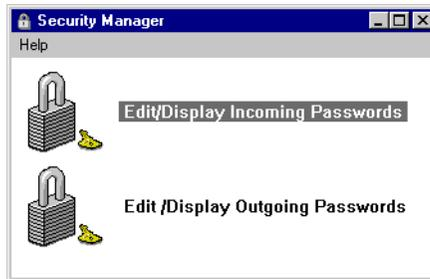

Figure 120. Netfinity Manager Security Manager
1. On each remote server run Netfinity Manager and open Security Manager. (You can also do this remotely through Remote System Manager.) Figure 120 appears: